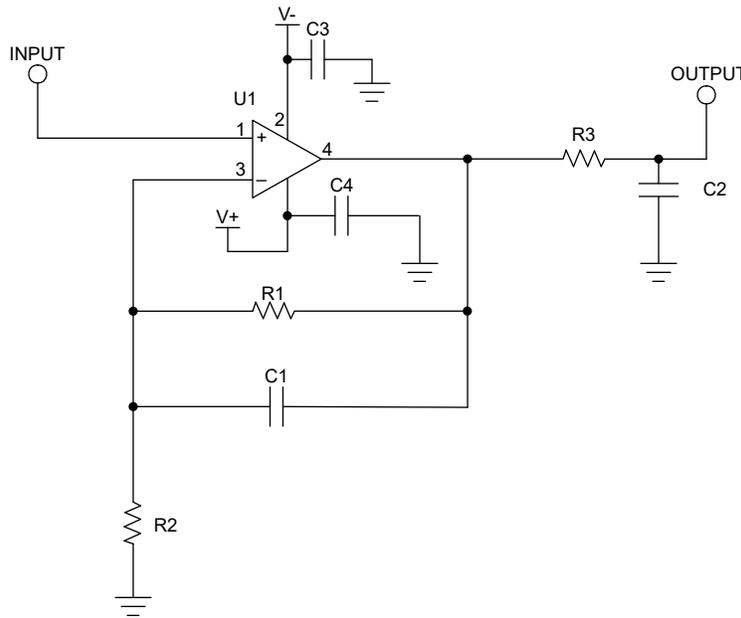

Figure 7-3. Schematic for Noninverting Configuration Layout Example
Place 0.1 μF bypass capacitors close to the power-supply pins to reduce errors coupling in from noisy or high-impedance power supplies. For more-detailed information on bypass capacitor placement, see *Figure 7-3*.
- Place the external components as close to the device as possible. As illustrated in *Figure 7-3*, keeping R_F and R_G close to the inverting input minimizes parasitic capacitance on the inverting input.